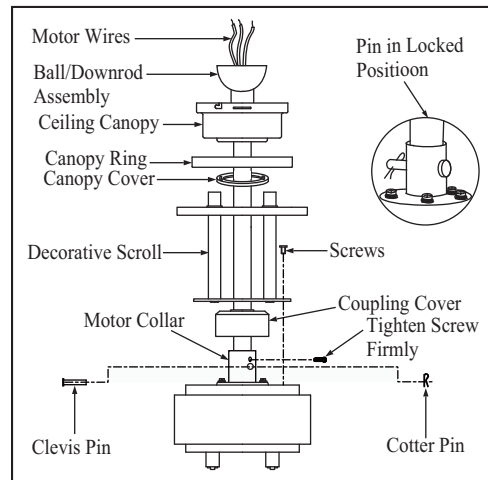

Figure 7
3. Route wires exiting from the top of the fan motor through the coupling cover, decorative scroll, canopy cover, canopy ring, canopy and then through the ball/ downrod. (Figure 7)
5. Align the holes at the bottom of the downrod with the holes in the coupling on top of the motor housing. (Figure 7) Carefully insert the clevis pin through the holes in the collar and downrod. Be careful not to jam the clevis pin against the wiring inside the downrod. Insert the cotter pin through the hole near the end of the clevis pin until it snaps into its locked position, as noted in the circle inset of Fig. 7.
6. Tighten two set screws on top of the fan motor firmly. Attach the decorative scroll to the motor housing using the screws provided. (Figure 7)